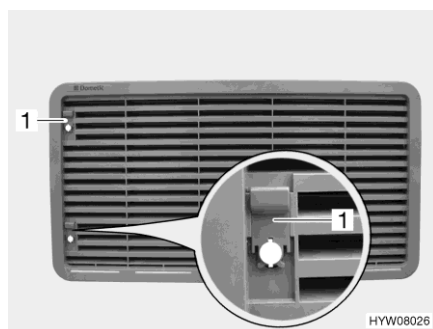
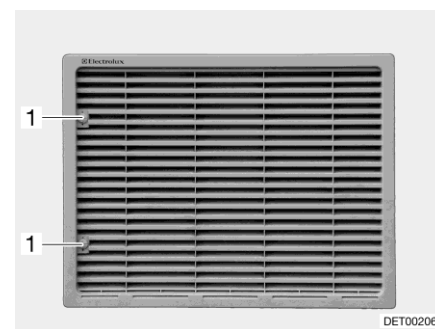

Fig. 174 Refrigerator ventilation grill (with sliding trap)
Fig. 175 Refrigerator ventilation grill (with screw)
- Depending on version: Push up the sliding trap (Fig. 174,1) or turn the screw (Fig. 175,1) a quarter turn using a coin.